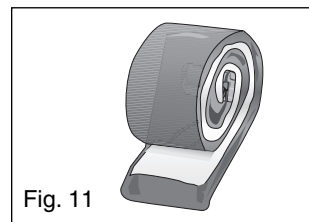

Fig. 11
7. Carefully roll/fold bed around pump for storage (see Figure 11).